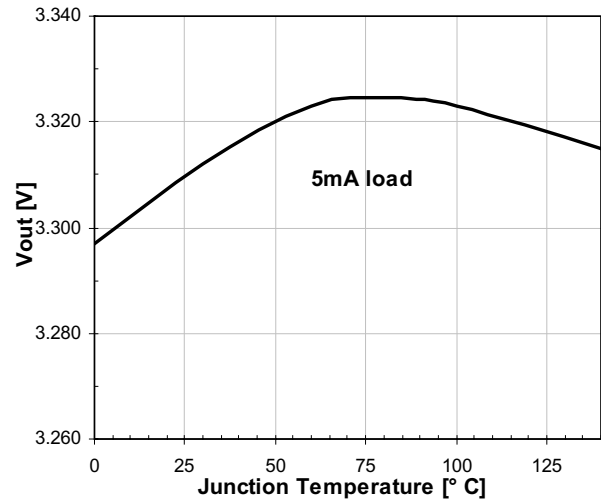

Figure 19. Output Voltage vs. Temperature
**Output Voltage vs. Temperature.** Figure 19 shows the regulator  $V_{OUT}$  performance up to the maximum rated junction temperature. The overall  $125^{\circ}\text{C}$  variation in junction temperature causes an output voltage change of about 25mV.